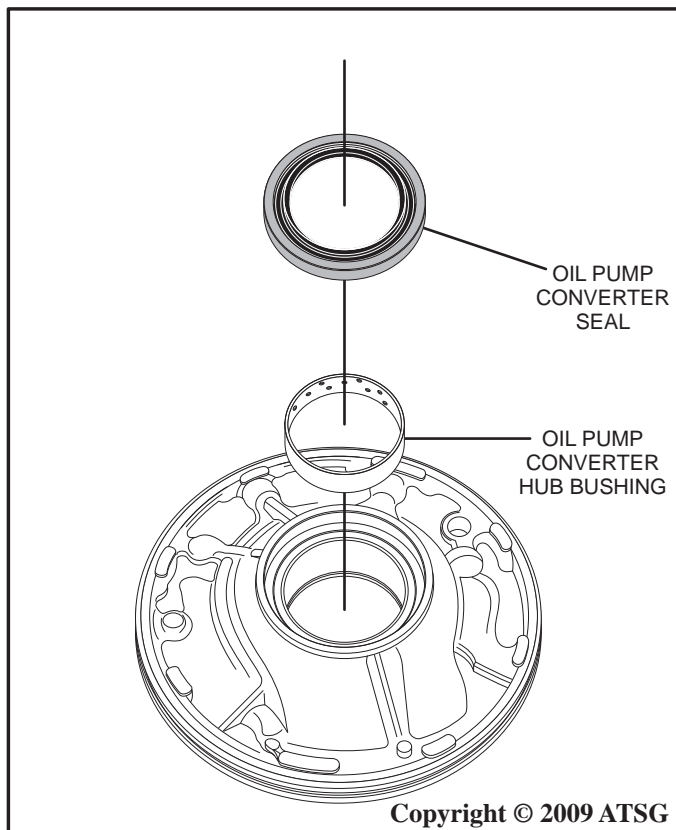

Figure 89
10. Using an appropriate bushing driver, install a new oil pump converter hub bushing as shown in Figure 89.
11. Using SST 09350-32014 (09351-32140) or other suitable seal installer, install a new oil pump converter seal as shown in Figure 89.